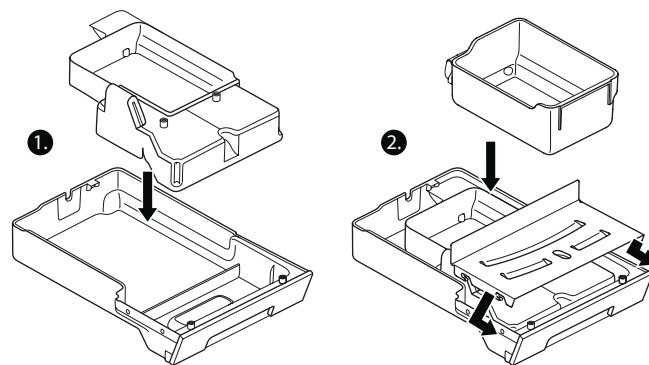

Fig. 11: Assembling the drip tray
8. Put the drip tray (Fig. 11) other parts back together and push the drip tray and the coffee-milk dispenser back into the device.